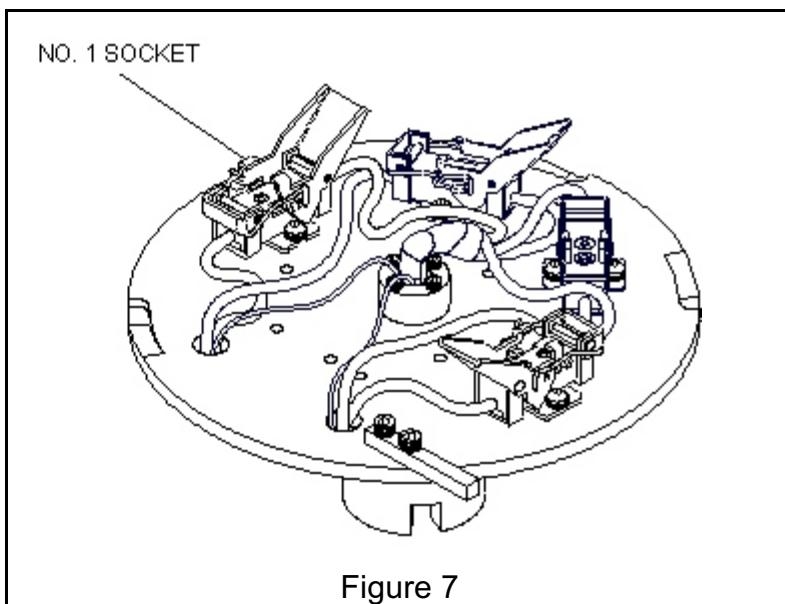

Figure 7
2. Move the operating lamp, if serviceable, to No. 1 position (Figure 7). (Rotate Clockwise)
4. Reset table to move No. 1 lamp to the operating position (Figure 7). (Rotate Clockwise)